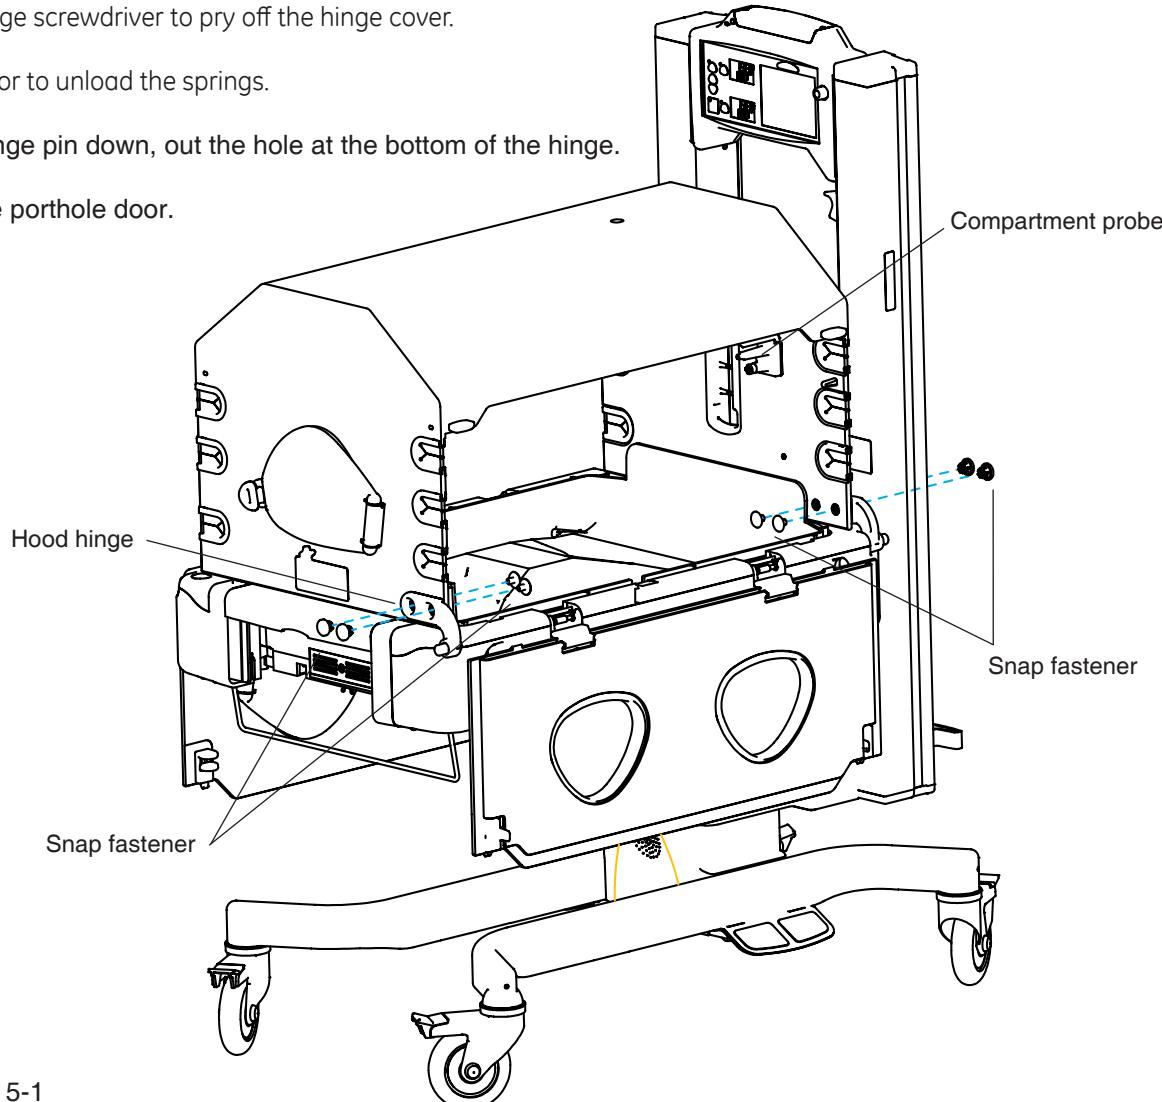

Figure 5-1
5.1 Hood Removal for Replacement (Figure 5-1 and 5-3)